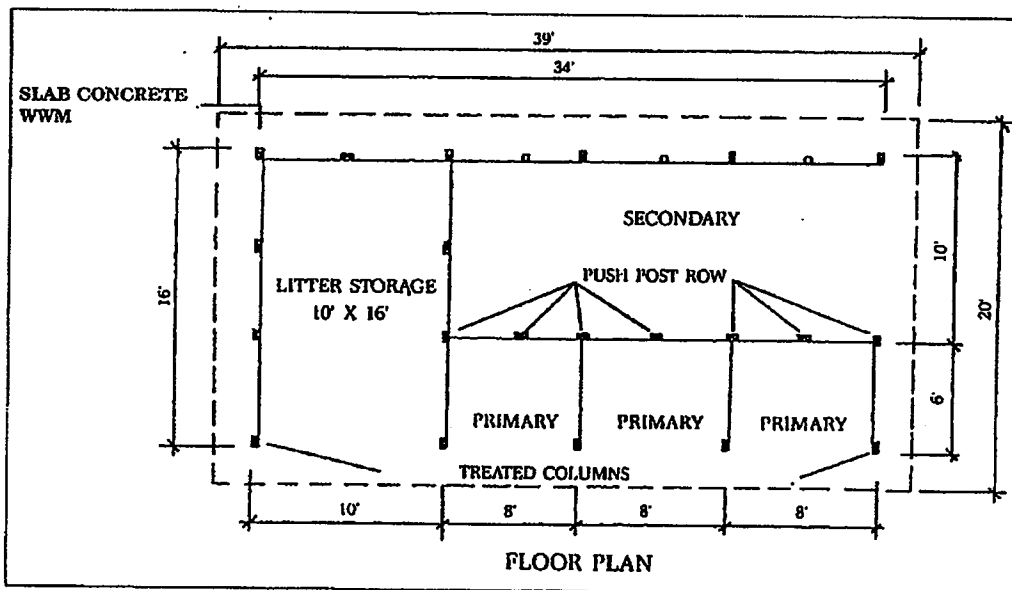

Figure 3.—Typical two-stage composter floor plan (not to scale).
- ▼ Several smaller primary bins work more efficiently than a few large bins. Secondary bins can be larger, but they must have the same capacity as the primary bins (see Fig. 3).